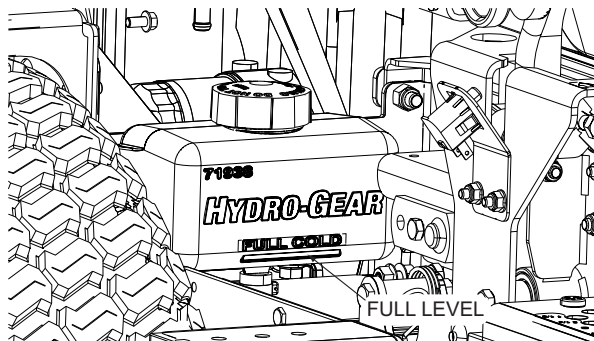

Figure 7-2. Hydraulic Oil Reservoir
2. Visually check the level of hydraulic oil. Hydraulic oil must be within the center of the wide portion of the indicator window when the machine is cold. See Figure 7-2. If the fluid is low, add 20W50 oil (Scag p/n 486255 - 1 Quart or p/n 486254 - 1 Gallon). DO NOT overfill; (overfilling the oil reservoir may cause oil seepage around the cap area).